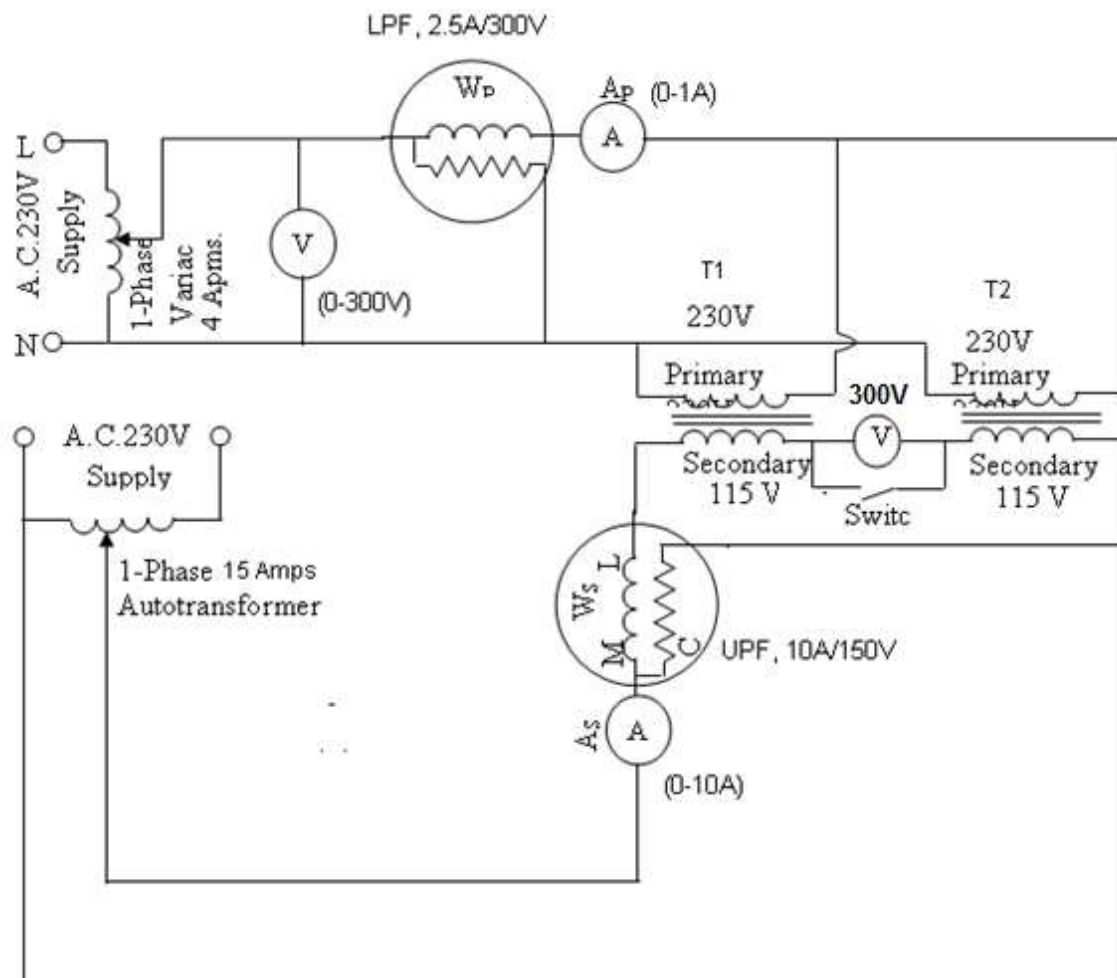

FIG 1.1 Circuit diagram for Sumpner's test.
Two identical transformers are used in this test. The primaries are connected to the supply. The secondaries are connected together such that the voltage in the loop formed by the secondaries is zero, i.e., the voltages are in phase opposition in the loop. Under this condition, the power taken from the mains equals the sum of the iron losses taking place in the two transformers. If an auxiliary voltage source is now introduced in the loop formed by the secondary windings, it essentially sees a short circuit in the primary winding circuit. As such, a small voltage of this source can be made to circulate short circuit currents through the primary and secondary windings of the two transformers equal to their full load currents. The power delivered by this auxiliary source is essentially equal to the copper losses in the windings of the transformers. The auxiliary voltage source is in the form of a booster transformer. See Fig. 1.1 for details. Since the transformers are identical, we can determine the iron and full load copper losses in each transformer from the readings of the total iron and copper losses. The main advantage of this test is that the power required for operation at any load is only equal to the losses. So, without much expenditure in energy, we can operate the transformers such that the iron and full load copper losses take place in them, and run them in this condition for a long enough time to determine the temperature rise under steady state condition. Such tests are called 'heat run' tests. They are extremely important since power ratings of transformers (for that matter, of any electrical power equipment), are decided by their temperature rise.
2. Calculate the ranges of the meters required and get these approved. Make the connections as given in Fig. 1.1 and get them checked.
3. Connect the 4 amp variac (connected in primary of transformers) to single phase supply and increase the voltage from zero to the rated voltage of primary of transformers. If the voltmeter (connected in the circuit of the secondary windings of the test transformers), indicates double of secondary voltage i.e., if emfs are additive in the loop, switch off the supply and interchange any one of the secondary windings and again see the voltage. Now if the voltmeter indicates zero, the secondaries are connected back to back. Short circuit the voltmeter by closing the switch, as shown in Fig. 1.1.
4. Connect the supply to the 15 amps variac (connected in secondary side of transformers) as shown in Fig. 1.1 Increase the voltage (start from zero) of the secondary side of transformers through the variac gradually then the current in the secondaries of the test transformers will vary. Take the meter readings and record them in table for 60%, 80%, 100% and 110% of the rated current of the transformers under test.